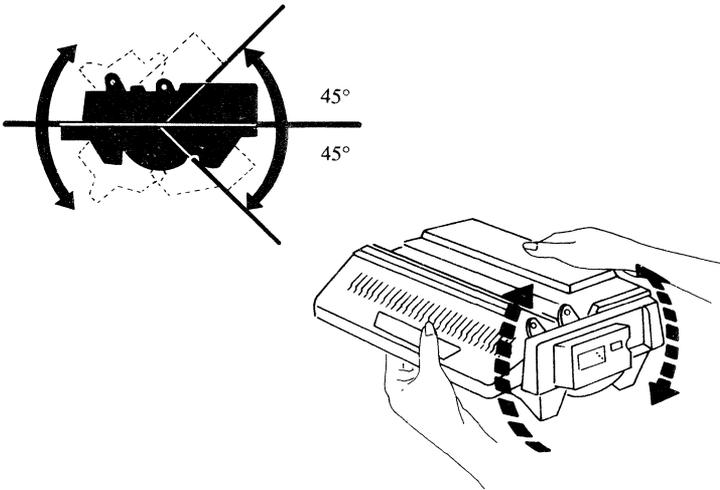

Figure 4: Rotating the Print Cartridge
2. Take the print cartridge out of its bag. Hold the cartridge as shown in Figure 4. Rotate it slowly 45-degrees in both directions several times in order to distribute the toner evenly inside the cartridge. Tilting the cartridge toward either end can cause uneven distribution of the toner and should be avoided.